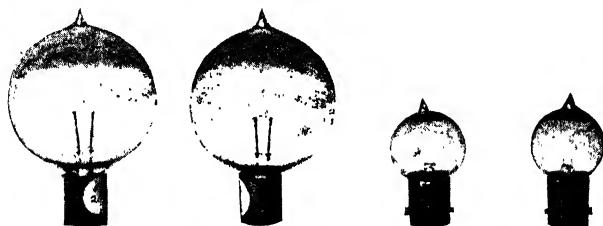

Fig. 184. Westinghouse Lamps—Head, Side, and Tail
*Mazda Type.* Fig. 184 shows the standard types of lamps generally used. These are Westinghouse Mazda lamps for 6 volts, those at the left being 15 c.p. headlight lamps; the next two, 6 c.p.